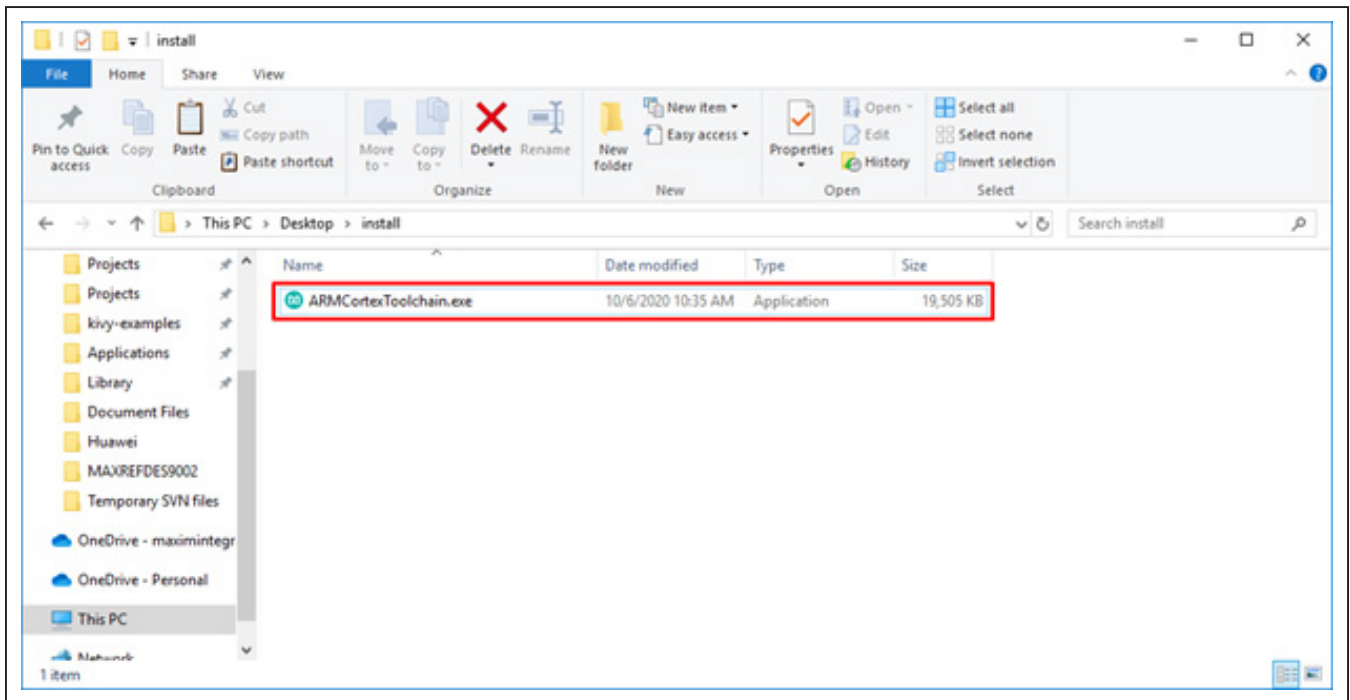

Figure 2. File viewer.
- 2) Double-click on **ARMCortexToolchain.exe** to begin the installation as shown in Figure 2.